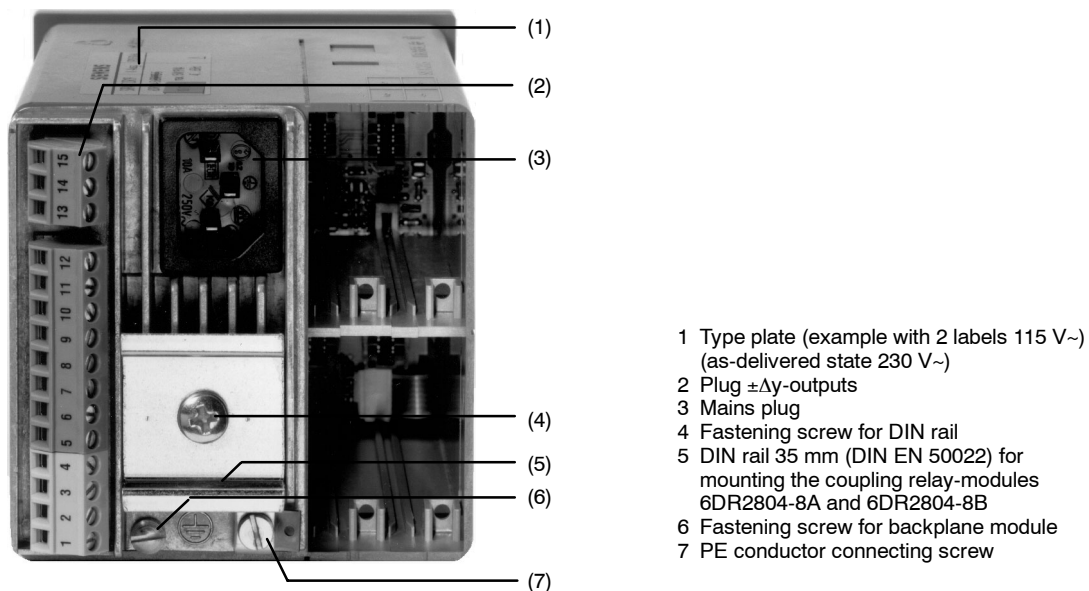

Figure 4-1 Rear of controller
Stick the two labels provided (115 V power supply) to the rating plate in the field 230 V AC and on the housing to the right of the mains plug vertically to the rear of the housing (see figure 4-1). Re-install the backplane accordingly.
The SIPART DR19 is designed for a large electromagnetic compatibility (EMC) and has a high resistance to HF interference. In order to maintain this high operational reliability we automatically assume that all inductances (e.g. relays, contactors, motors) installed in the vicinity of or connected to the controllers are assembled with suitable suppressors (e.g. RC-combinations)! To dissipate interference, the controller must be connected at the PE-terminal of the cast body (figure 4-1, page 129 item 7) with good HF-conductance.